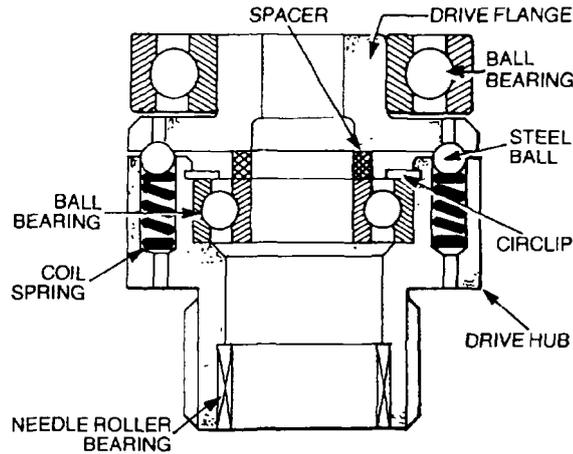

Figure 200 Removing the Torque Limiter
- m. Support the torque limiter on the jaws of the vice and carefully tap the shaft through the drive flange (Figure 200).
- n. Lift off the drive flange complete with the bearing, taking care not to lose the steel balls, and remove the spacer (Figure 200).